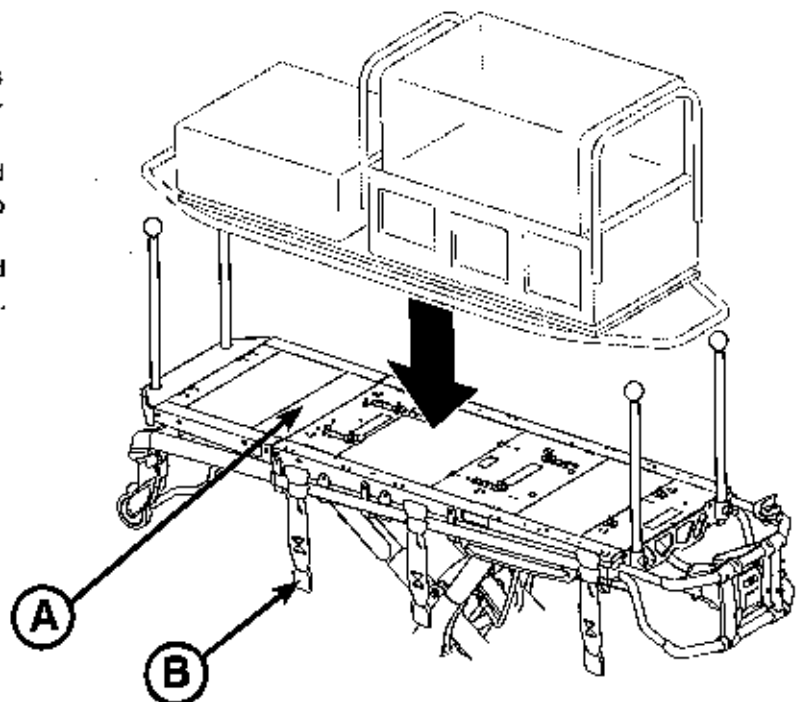

Figure 43
1. Attach the straps (not supplied), as shown in Figure 43, to secure the Air Sled to the litter surface (A).
2. Ensure that the straps (B) are secured from the litter and not the push bars to the Air Sled (Figure 43).